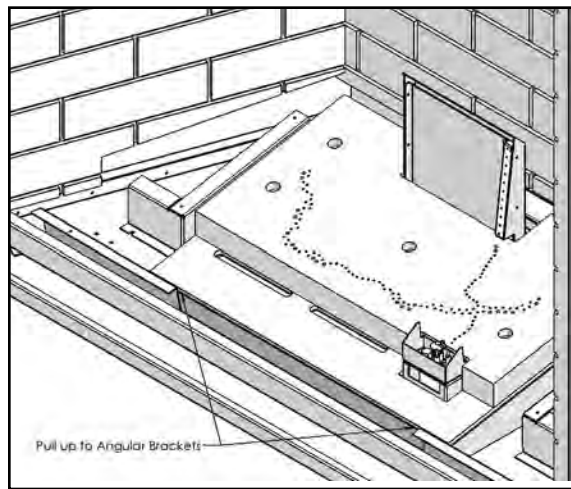

Figure 56: Log Burner in Place.
2. Pull the burner forward up to the angular brackets near the front of the firebox (see Figure 56).